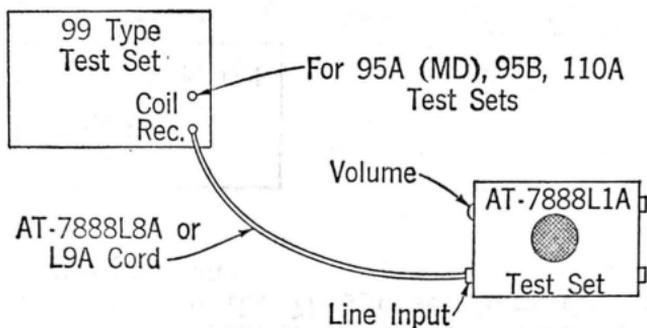

Fig. 3
4.02 **99-Type Test Set:** The method of using and the cord required for connecting the speaker set to a 99-type set in locating grounds or crosses in long or loaded cables are as shown in Fig. 3. The volume control should be adjusted to provide the desired signal strength.